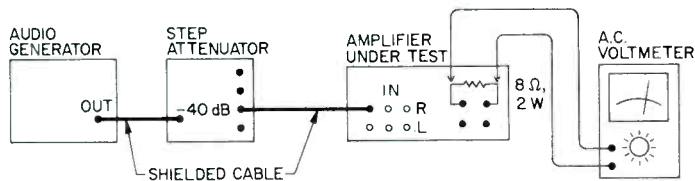

Fig. 7—Equipment setup for measuring crosstalk and separation (shown for integrated amplifier or receiver).
1. Turn on all equipment (Fig. 7) and allow an appropriate warmup time, about 5 minutes for semiconductor equipment and about 15 minutes for vacuum-tube equipment.